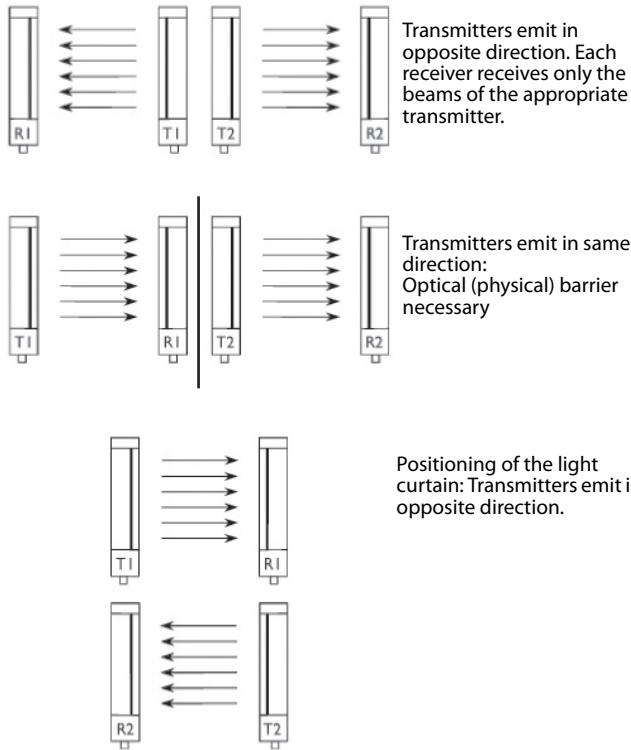

Figure 9: Multiple GuardShield Micro 400 alignment options
1. Mount the transmitter and receiver with the brackets (Figure 9). Make sure that the longitudinal axis of both are oriented parallel to each other. For a vertical or horizontal mounting a level might help to find the correct position.